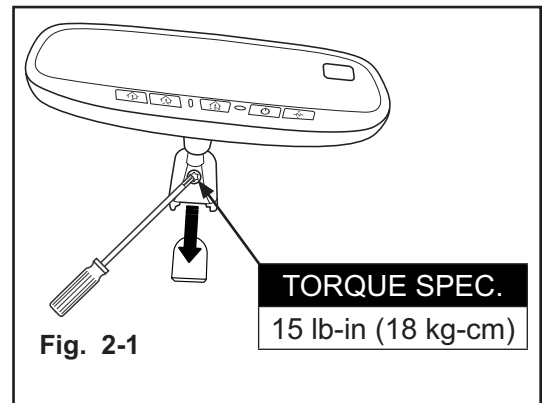

Fig. 2-1
- a) Hold the mirror head and slide the mount downwards as far as possible over the windshield button, until fully seated. (Fig. 2-1)